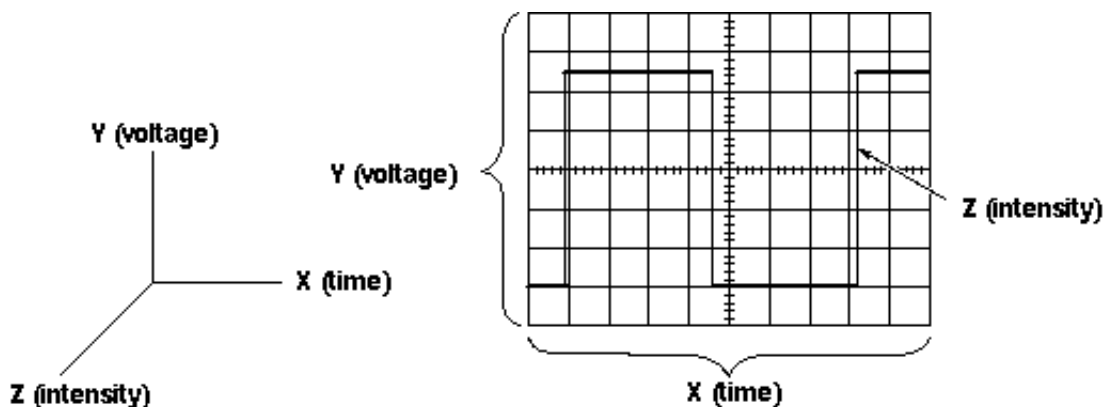

Figure 1: X, Y, and Z Components of a Displayed Waveform
The oscilloscope is basically a graph-displaying device - it draws a graph of an electrical signal. In most applications the graph shows how signals change over time: the vertical (Y) axis represents voltage and the horizontal (X) axis represents time. The intensity or brightness of the display is sometimes called the Z axis. (See Figure 1.) This simple graph can tell you many things about a signal. Here are a few:
- You can find out how much of a signal is direct current (DC) or alternating current (AC).